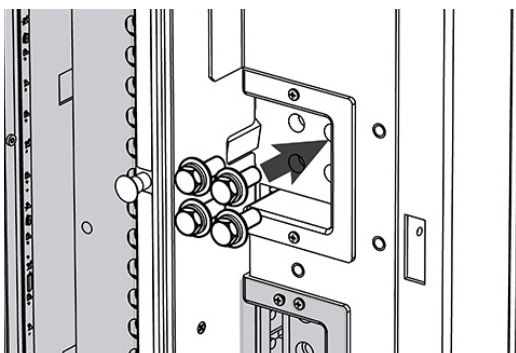

Figure 42. Panel Connection Hardware
- Step 5.** Install and tighten the supplied 3/8 in. hardware to connect the panel to the hot bus (see Figure 42).